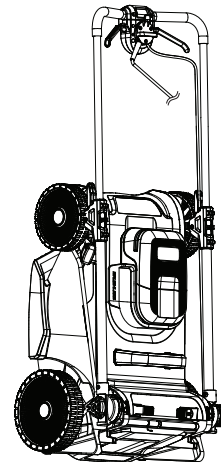

Fig. 22
- Store the lawn mower flat or upright (Fig. 22).